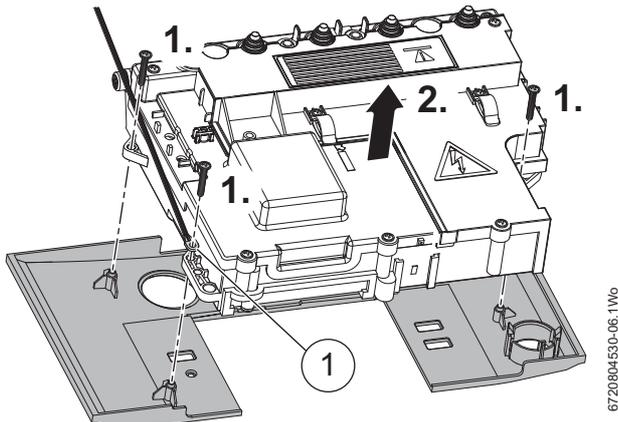

Fig. 118 Fascia removal (SMPS)
1. Refer to figure 118 and remove the three screws retaining the front fascia, the support cable (1) is secured using the nearest left hand screw. Support the fascia when removing the last screw.